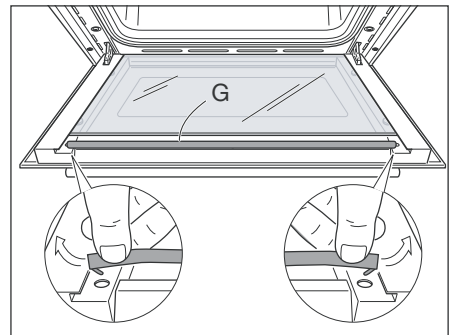

Fig.48d
- Remove the seal "G" by unhooking the two fixing hooks (Fig. 48d).